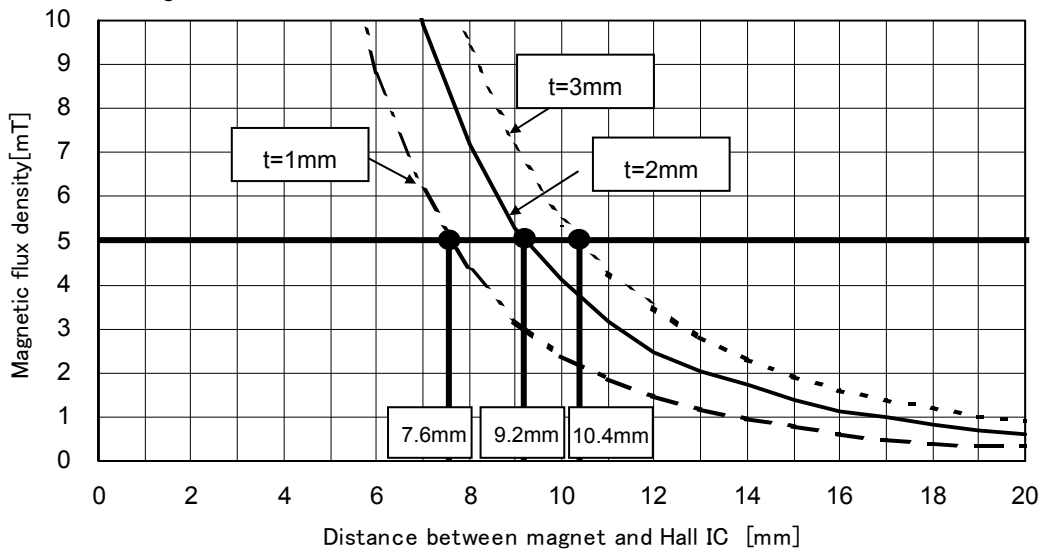

Fig.26
Of the two representative varieties of permanent magnet, neodymium generally offers greater magnetic power per volume than ferrite, thereby enabling the highest degree of miniaturization. Thus, neodymium is best suited for small equipment applications. Fig. 26 shows the relation between the size (volume) of a neodymium magnet and magnetic flux density. The graph plots the correlation between the distance (L) from three versions of a 4mm X 4mm cross-section neodymium magnet (1mm, 2mm, and 3mm thick) and magnetic flux density. Fig. 27 shows Hall IC detection distance – a good guide for determining the proper size and detection distance of the magnet. Based on the BU52014HFV operating point max 5.0 mT, the minimum detection distance for the 1mm, 2mm and 3mm magnets would be 7.6mm, 9.2mm and 10.4mm, respectively. To increase the magnet's detection distance, either increase its thickness or sectional area.